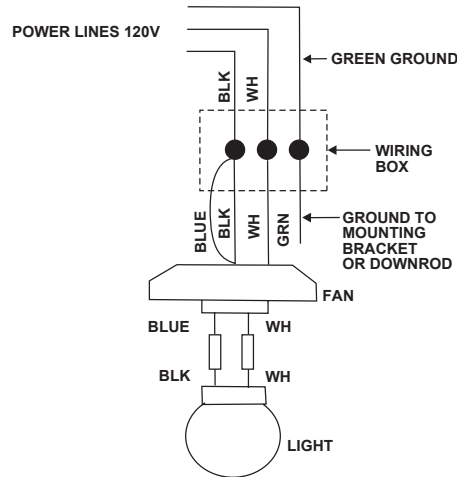

Figure 13
Step 1 Connect the fan supply (black) wire and light supply (blue) wire to the black household supply wire as shown in Figure 13.